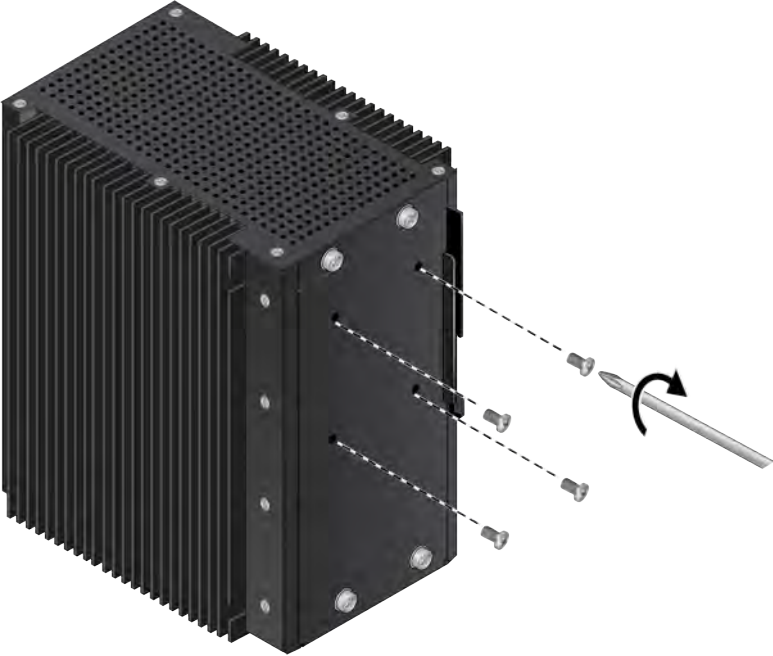

Figure 31. Reinstalling the DIN Rail Bracket Screws
- 3. Reinstall the bracket screws. Tighten the screws to 18 in-lbs. Refer to Figure 31.
3. Reinstall the bracket screws. Tighten the screws to 18 in-lbs. Refer to Figure 31 on page 79.